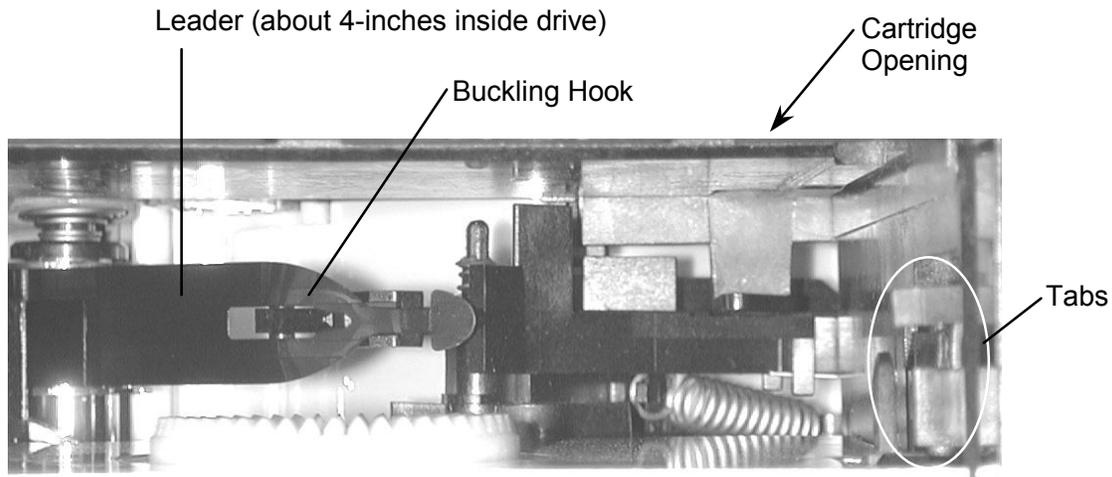

Figure 5-6 Quantum DLT Tape Drive Leader shown in its normally hooked position
*If the tape is allowed to eject out of the tape drive all in one motion, the tape drive's leader may be damaged (Figure 5-6). If the shiny guide rod on the left side of the tape drive slot is fully visible, the leader has become detached from the buckling hook. See Section 5.11 for the Quantum DLT tape drive leader repair procedure.*
1. Reach about ¼-inch into the tape drive's cartridge opening (Figure 5-13) and press the tabs on the right side (Figure 5-6), then gently lift the tape drive's handle all the way open.